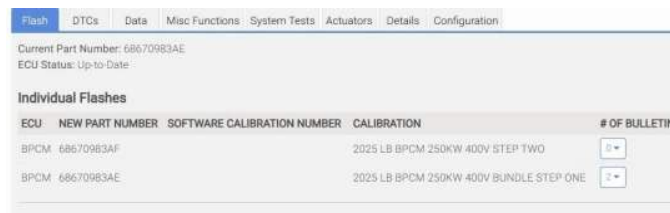

Fig. 4
7. Inspect the software level on the BPCM by going into the "Flash" tab and compare to what software is available Fig. 4.